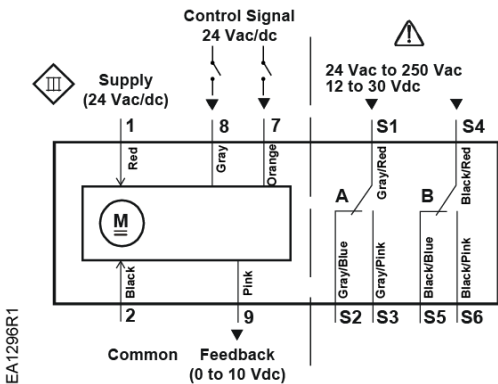

Figure 7. Pulsed Control Signal.
- For Siemens FHC/LRC pulsed control signal applications, see Figure 7.